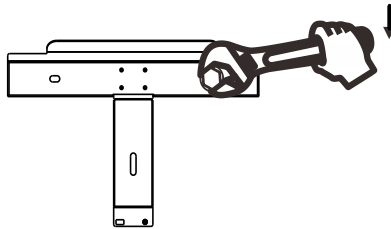

Figure 4.9 Fastening the mounting bracket onto the supporting structure
- Step 2 : Fasten the mounting bracket onto the supporting structure with 3 sets of M12\*40 SEMS screw, washer, and nut as shown in Figure 4.9. Torque: 42N•m,